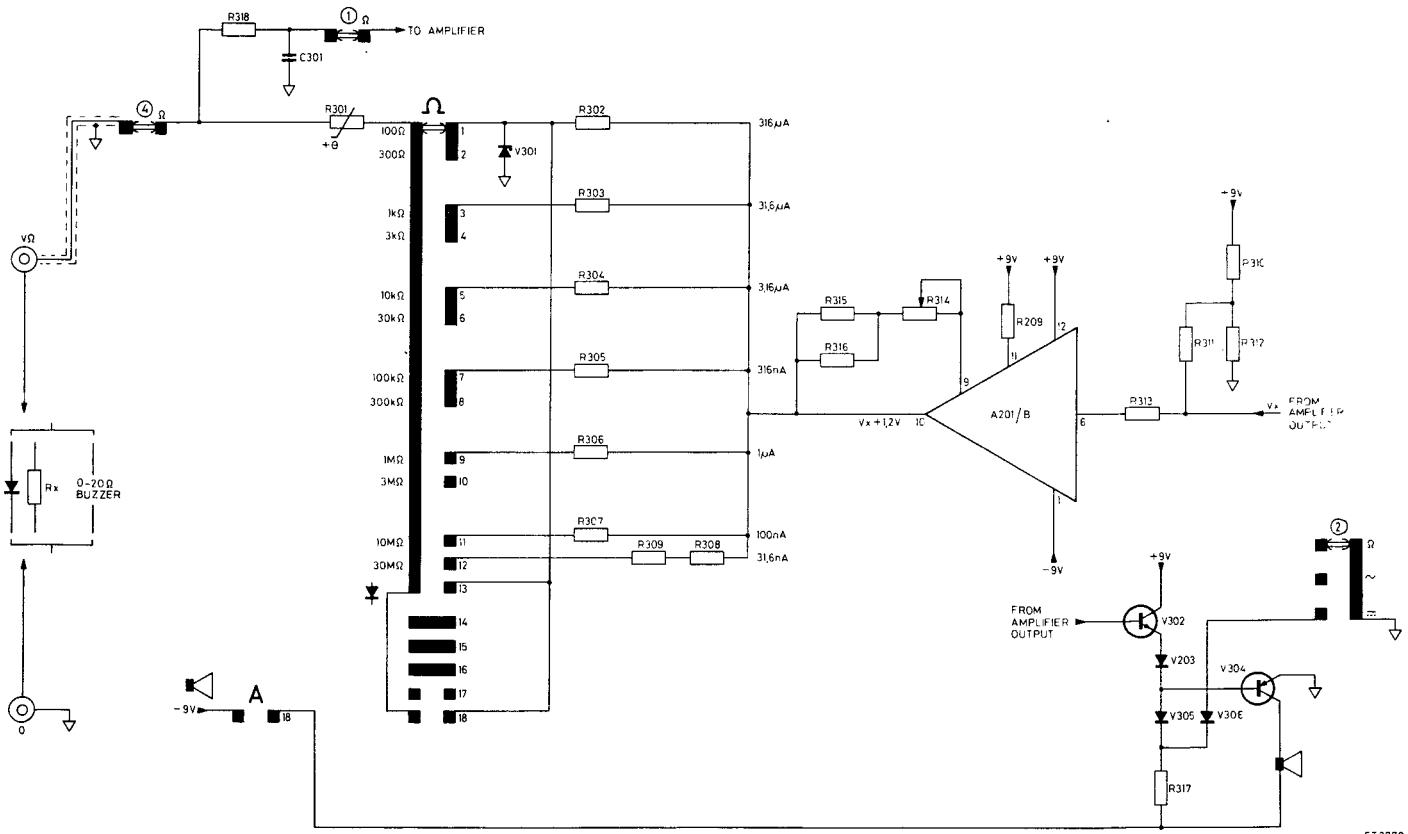

Fig. 12. Ω , $\frac{V}{A}$, BUZZER current source
4.3.3.2. Ω , $\frac{V}{A}$ and BUZZER current source (Fig. 12)